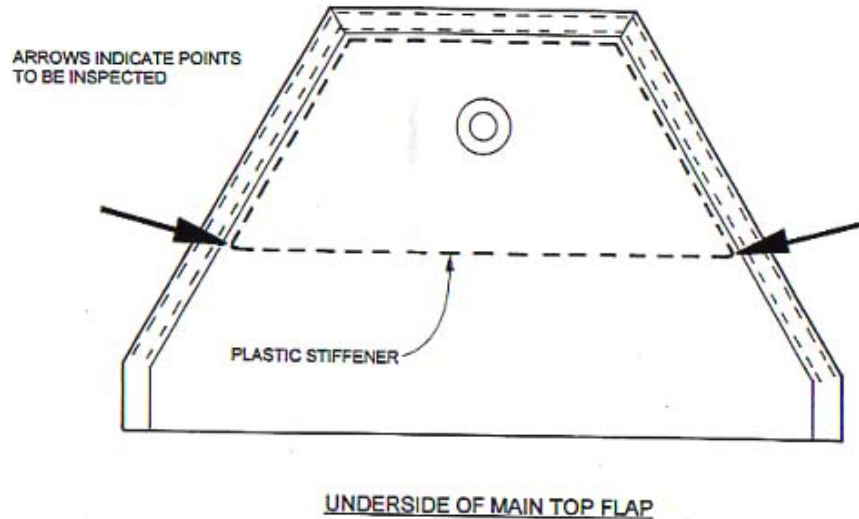

FIG. 1
- 1) Inspect underside of main top flap at points indicated in FIG. 1. If a corner of the plastic stiffener is exposed by wear, proceed to step 2.